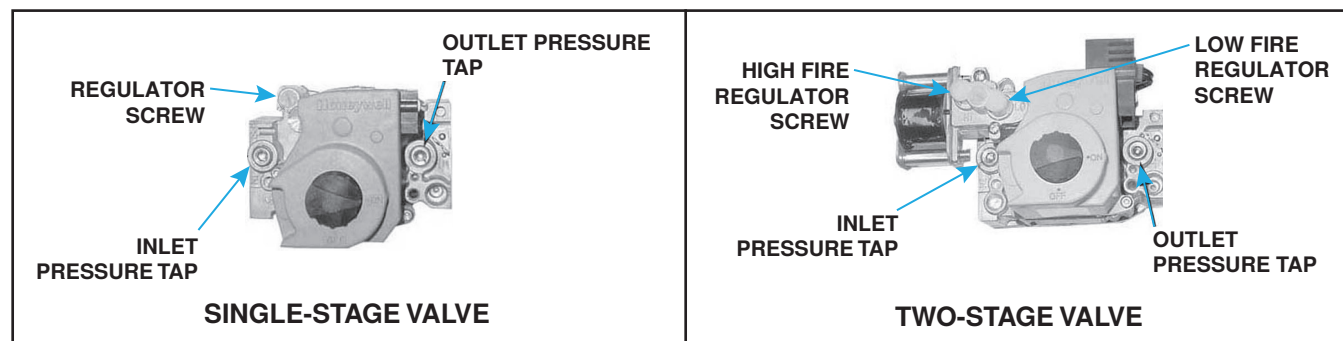

Figure 34. Combination Gas Valves
1. With manual valve (on combination valve) positioned to prevent flow to main burners, connect manometer to outlet pressure tap (see Figure 34) on valve.
3. Normally, adjustments to factory-preset regulator should not be necessary. If adjustment is necessary, set pressure to correct settings by turning regulator screw (see Figure 34) IN (clockwise) to increase pressure or OUT (counterclockwise) to decrease pressure. Consult valve manufacturer's literature provided with furnace for more detailed information.
2. Connect manometer to 1/8-inch inlet pressure tap on combination gas valve (see Figure 34).